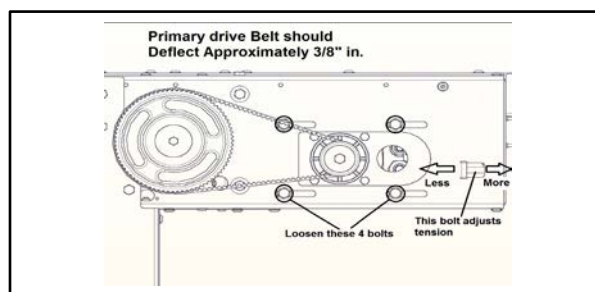

Figure 29
2. Check the tension setting of the primary drive belt by placing moderate pressure against the mid-point of the belt. A properly tensioned belt should deflect approximately 3/8" in. (See Figure 29.)